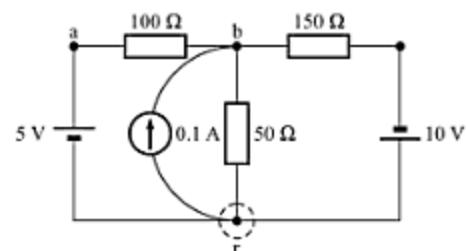

Fig. 3.76
17. Find the current downward in the $50\text{-}\Omega$ resistor in the circuit shown in Fig. 3.76, by first solving for v_b using node-voltage analysis. [Ans. 0.0448 A]